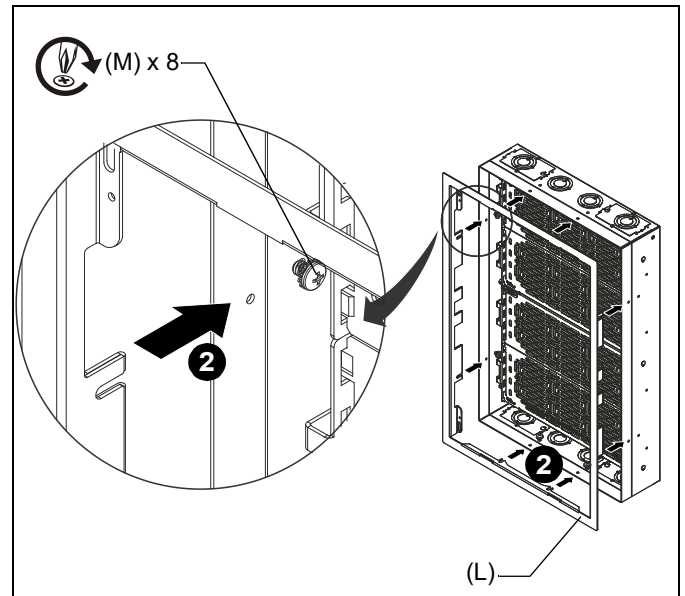

Figure 16
2. Slide flange (L) into PAC527L over installed screws, and tighten screws. (See Figure 16)